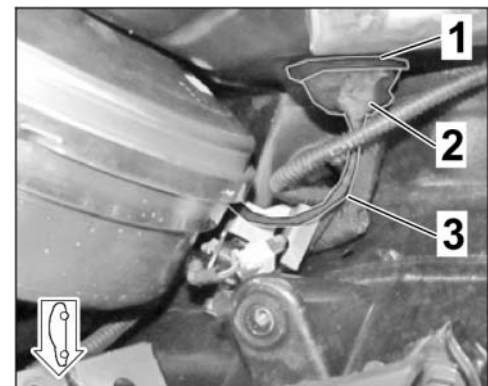

Figure 14
2.3.7 Install grommet in bulkhead and seal inside and outside (⇒ *Figure 14*) with sealing cord.